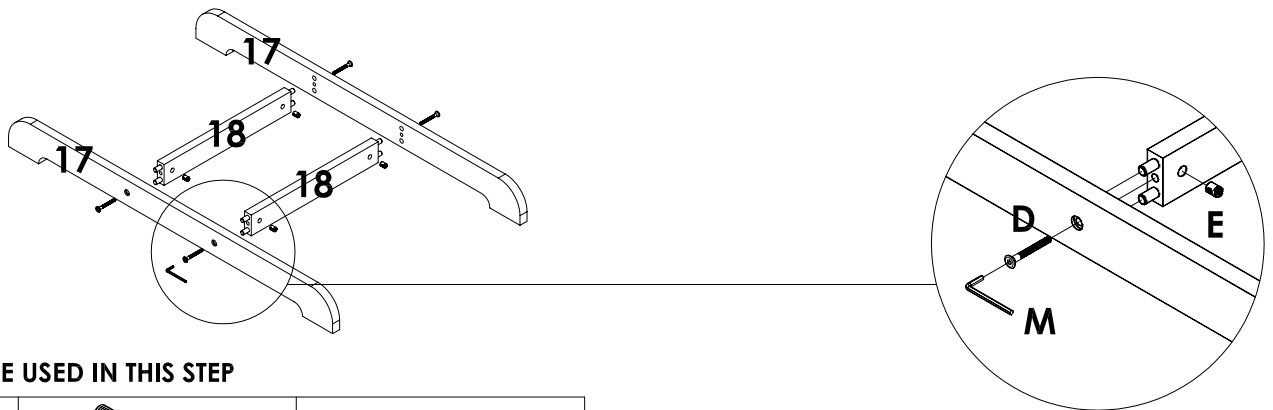

Figure 17
1. Attach and secure both **Ladder Posts** onto **Ladder Slats** by using **JCBC Bolts (D)** and **JRN Nuts (E)** as shown on **Figure 17**, tighten it up by using an **Allen Key (M)**.